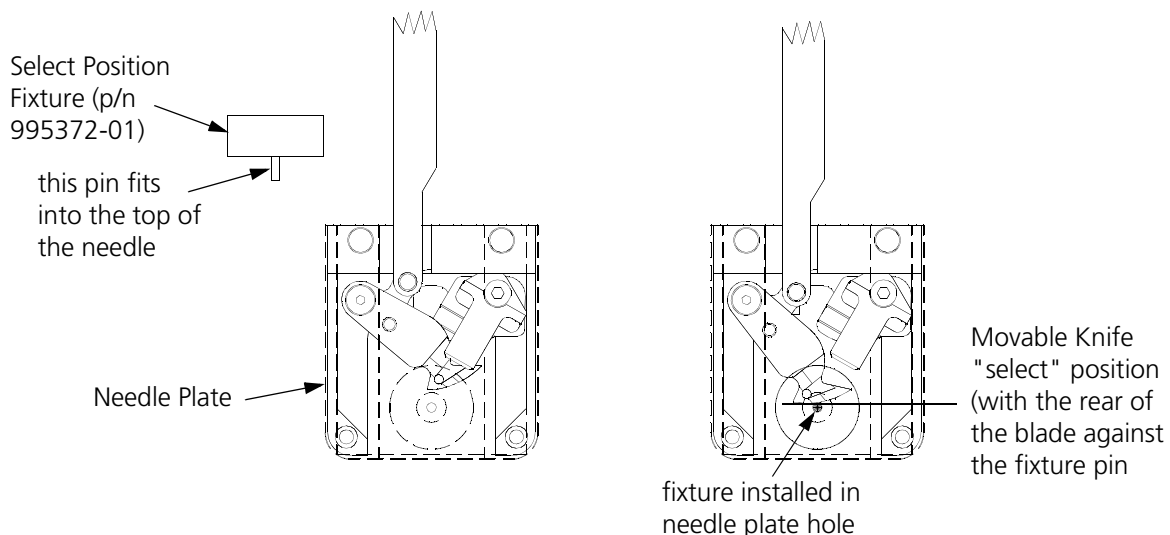

Figure 4-25
35. Using Select Position Fixture (Melco part number 995372-01), check the movable knife for the select position (refer to Figure 4-25).